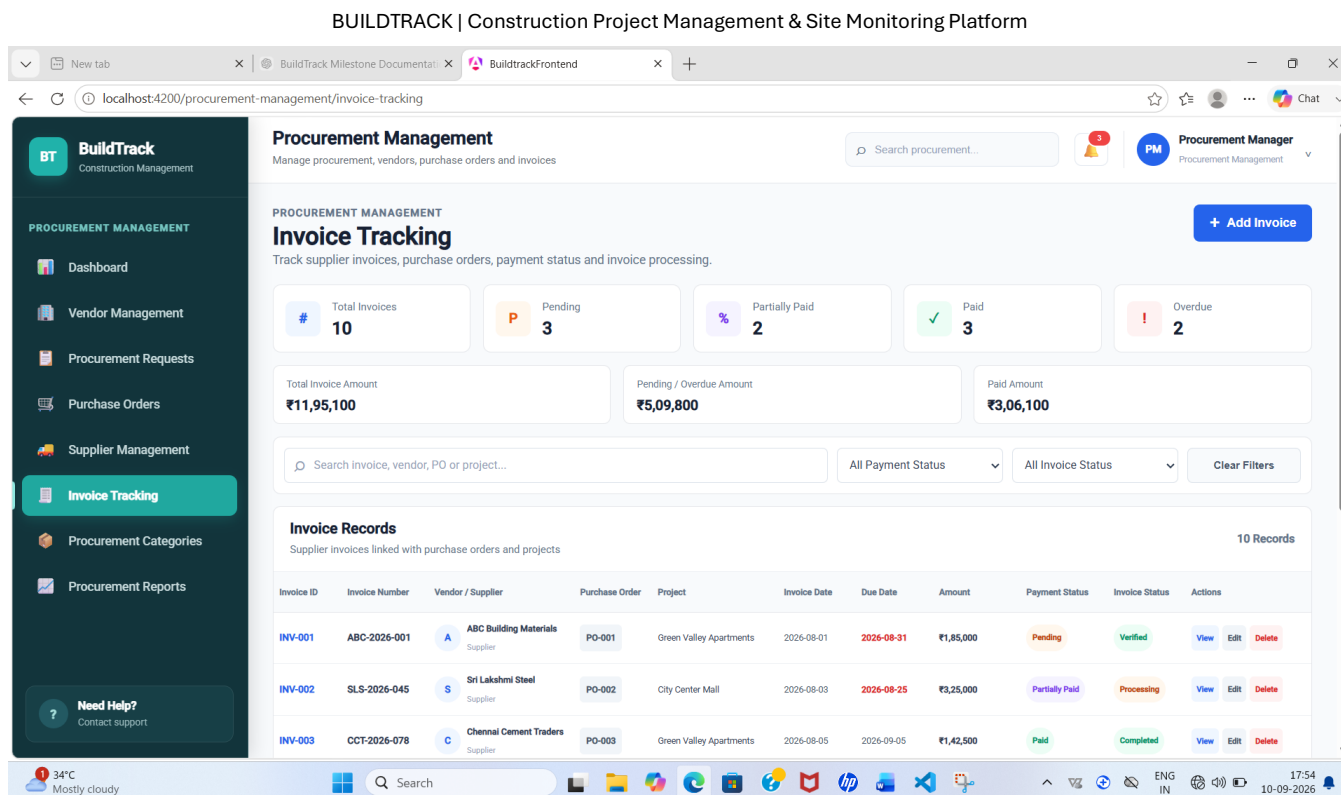

Figure 13: BuildTrack – Invoice Tracking
- Figure 13 – Invoice Tracking